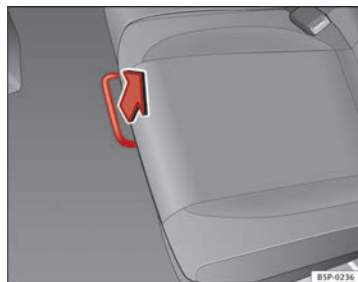

Fig. 97 For unlocking the rear seat
- In the seated position, unlock the lever in the direction of the arrow ⇒ Fig. 97.